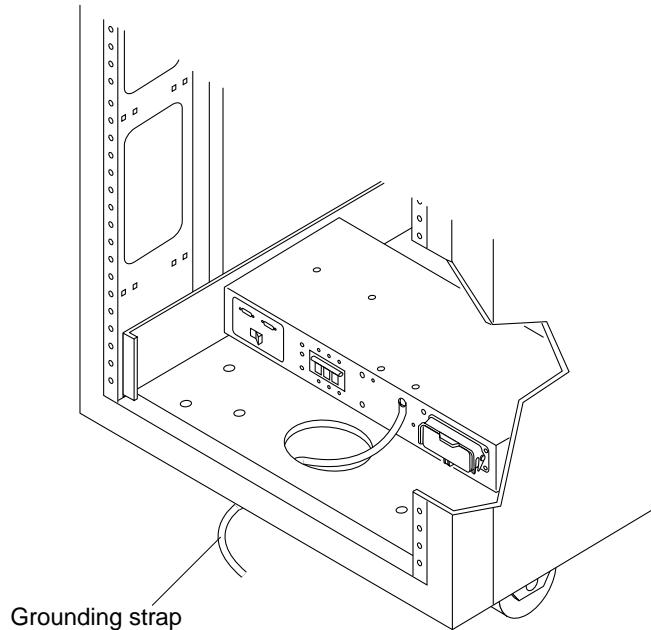

FIGURE 4-4 Connecting the Grounding Strap to the Front Power Sequencer
2. **Screw one end of the grounding strap to the power sequencer on the system cabinet or on a cabinet that is grounded nearest to the storage system (FIGURE 4-4 on page 4-7).**
3. Screw the other end of the grounding strap to the front power sequencer in the storage system (FIGURE 4-4).